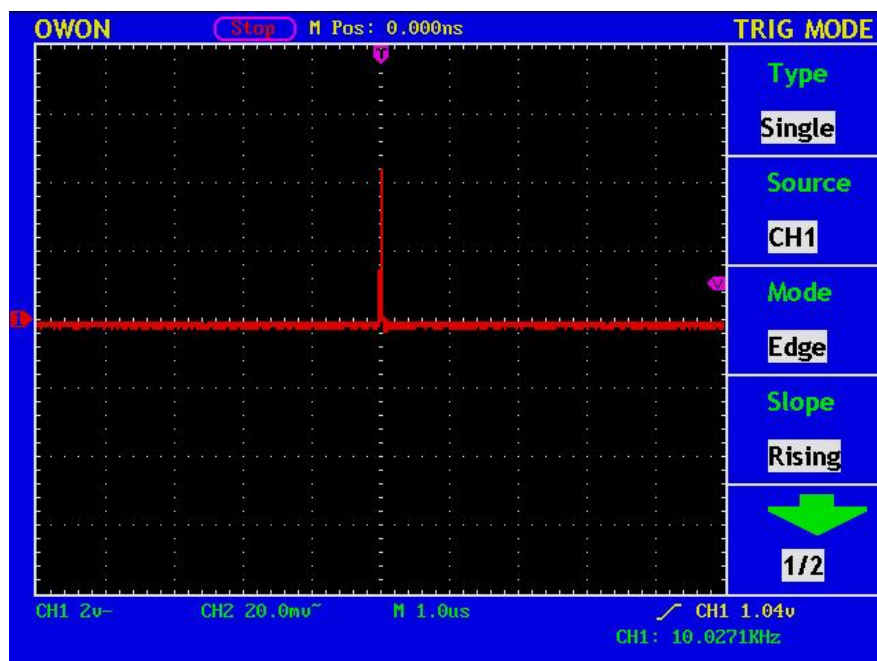

Fig. 110 Capture the Single Signal
12. If the **Trigger State Indicator** at the top of the screen does not indicate **Ready**, push down the **RUN/STOP** button and start **Acquire**, waiting the emergence of the signal in conformity with the trigger conditions. If a signal reaches to the set trigger level, one sampling will be made and then displayed in the screen. With this function, any random occurrence can be captured easily. Taking the burst burr of larger amplitude for example, set the trigger level to the value just greater than the normal signal level, and then presses the **RUN/STOP** button and waits. When there is a burr occurring, the instrument will trigger automatically and record the wave form generated during the period around the trigger time. With the **HORIZONTAL POSITION** knob in the horizontal control area in the panel rotated, you can change the horizontal position of the trigger position to obtain the negative delay, making an easy observation of the waveform before the burr occurs (see Fig. 110).